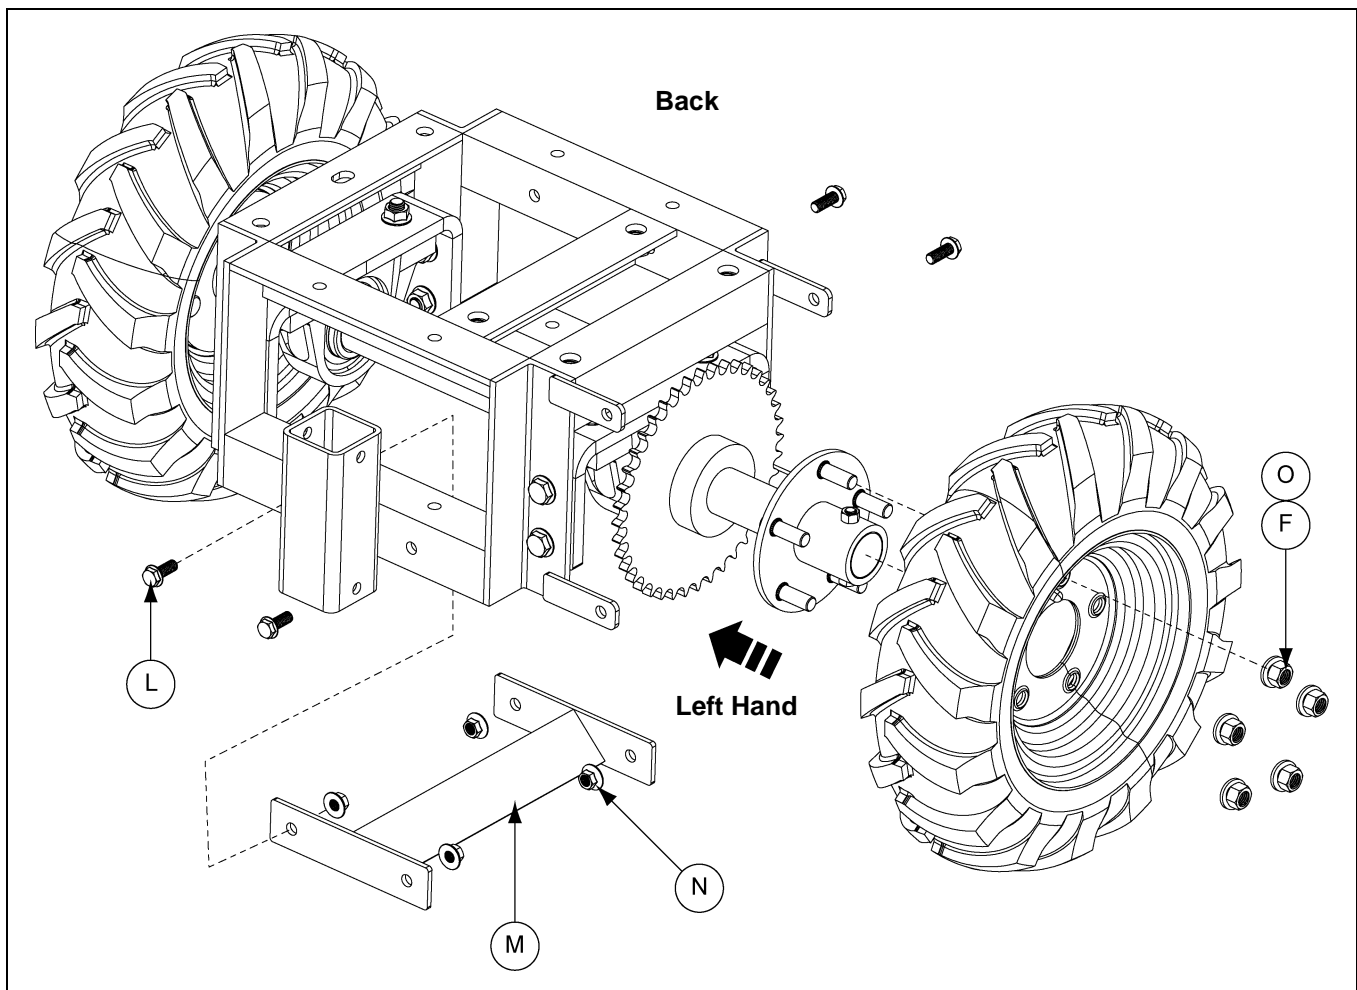

Figure 4R
NOTE: Remove the screws or nails that are present in the tires to contain the foam in the tires when they are made. The treads of the tires should be in the forward direction. *Figure 4R* shows the proper orientation of the tire and wheel assemblies.
8. Assemble the strut bracket (M) to the tractor frame using four (4) 3/8"-16 x 1" flange bolts (L) and serrated flange nuts (N). (See *Figure 4R*.)